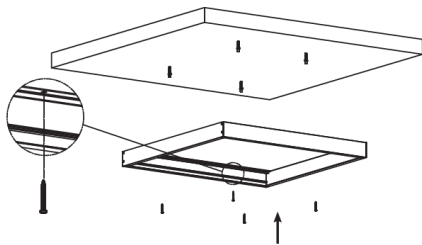

Fig. 6
- Using the frame as a template, mark the location for, and drill the fixing holes ensuring not to infringe with any gas/water pipes or electrical cables (see Fig. 6)